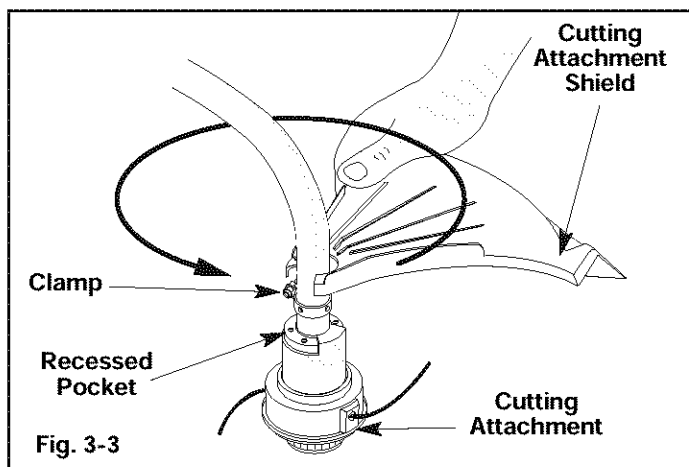

Fig. 3-3
1. Place the cutting attachment shield onto the shaft housing above the clamp assembly (Fig. 3-3).
2. Push the cutting attachment shield down to the top of the cutting attachment assembly and then rotate the cutting attachment shield until the screw holes align and the guard fits into the recessed pocket (Fig. 3-3).